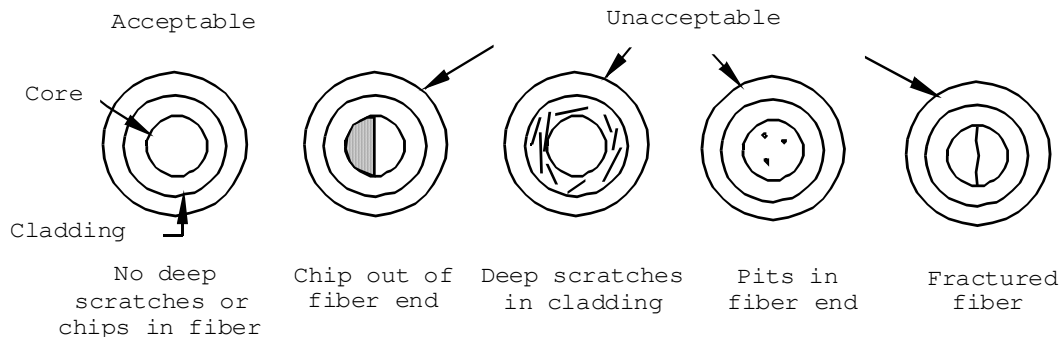

Figure 9. Quality verification.
- Step 1 - Examine the terminus with the optical microscope to ensure that the optical surface is smooth and free of scratches, pits, chips, and fractures (see figure 9). If any defects are present, repeat the polish with the 0.1 um paper or re-terminate the fiber. (NOTE: Do not polish the terminus more than necessary to pass the quality check.) A high intensity back light may be used to illuminate the fiber during the quality check.